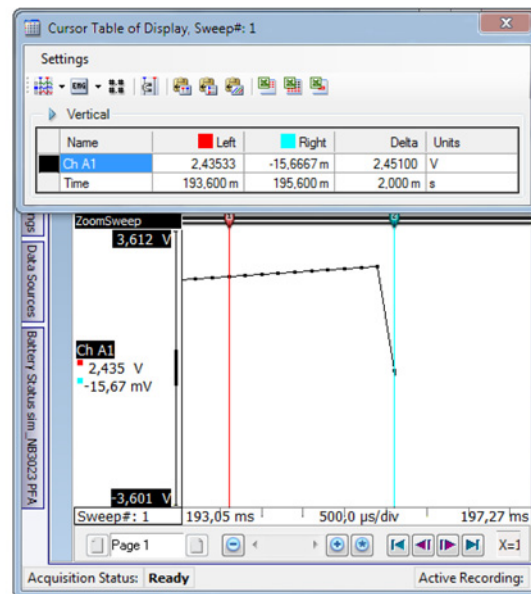

Figure F.9: Sample recording 1
- Next sample recorded (sample of blue cursors, see Figure F.9)